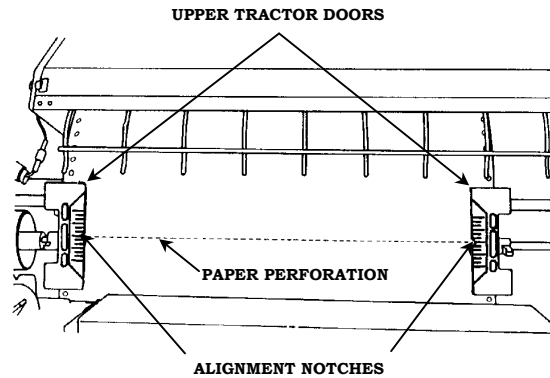

**Figure 3-1 Paper Alignment
1. The paper perforation must first be positioned at the pointer on each of the upper tractor doors. See Figure 3-1.